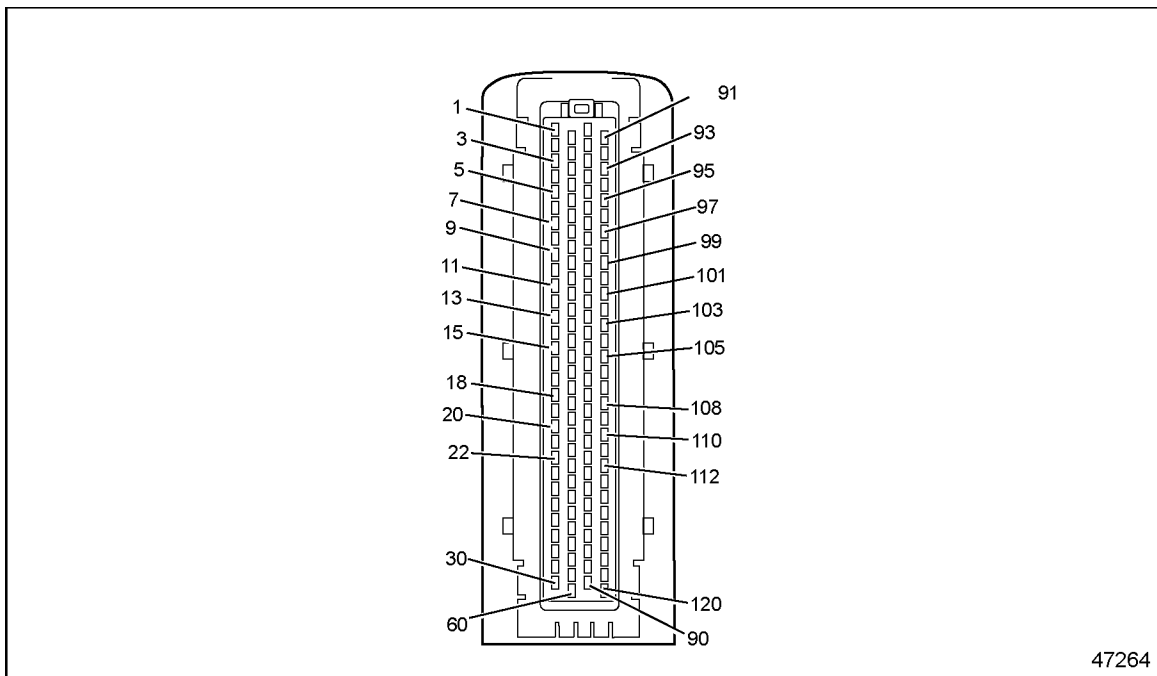

Figure 29-2 MCM Connector
- [a] If the voltage is between 2.75 and 3.25 volts, repair the open circuit between pin 1 of the ECT Sensor harness connector and pin 55 of the 120-pin MCM connector (see Figure 29-2). Refer to section 29.2.1.1.
- [b] If the voltage is less than 2.75 volts, repair the open circuit between pin 2 of the ECT Sensor harness connector and pin 110 of the 120-pin MCM connector (see Figure 29-2). Refer to section 29.2.1.1.